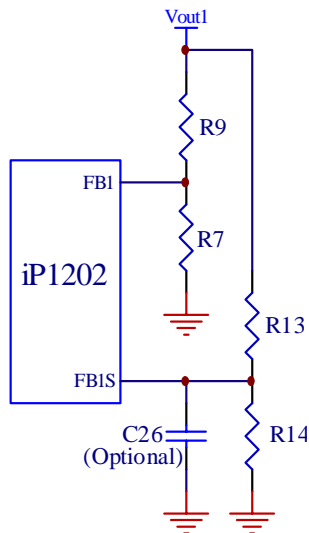

Fig. 17: Typical scheme for output voltage setting
Both outputs of the iP1202 will shut down if either one of the outputs experiences a voltage in the range of 115% of V_{OUT} . The overvoltage sense pins FB1s and FB2s are connected to the output through voltage dividers, R_{13} and R_{14} (Fig. 17), and the trip setpoints are programmed according to equation (1). Separate overvoltage sense pins FB1s and FB2s are provided to protect the power supply output if for some reason the main feedback loop is lost (for instance, loss of feedback resistors). An optional 100pF capacitor (C26) is used for delay and filtering purposes.
When selecting output capacitors, it is important to consider the overshoot performance of the power supply. If the amount of capacitance is not adequate, then, when unloading the output, the magnitude of the overshoot due to stored inductor energy, and depending on the speed of the response of the control loop, can exceed the overvoltage trip threshold of the iP1202 and can cause undesirable shutdown of the output. The magnitude of the overshoot should be kept below $1.125V_{\text{OUT}}$. To prevent the overshoot from tripping the output a delay can be added by installing capacitor C26 as shown in Fig.17.